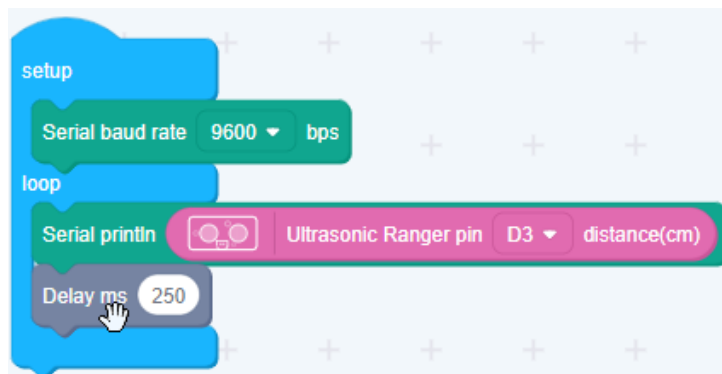

Figure 8.3: Codecraft Ultrasonic Ranger Setup
8. Create a Codecraft Setup (Figure 8.3).